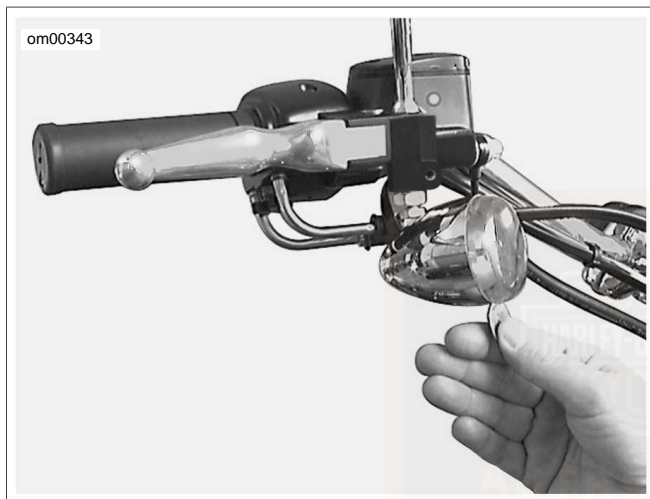

Figure 40. Lens Cap Notch
1. See Figure 40. To access the front or rear turn signal bulbs for replacement, locate a notch on the turn signal lens cap.